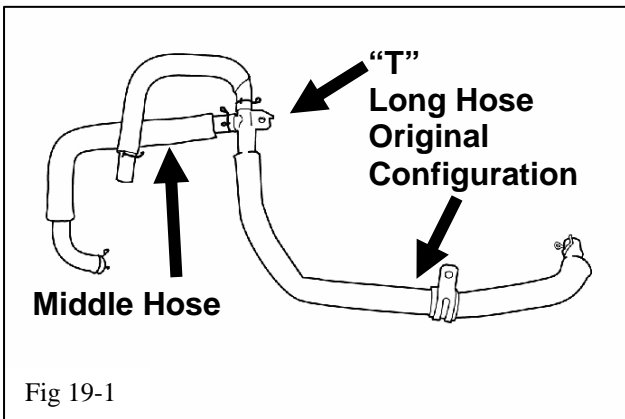
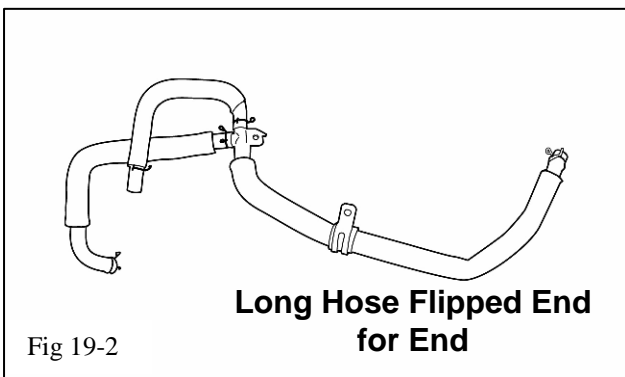

Fig 19-1
Fig 19-2
- (a) The ventilation hose assembly is shown as removed from the intake manifold (Fig 19-1). Remove the long hose from the "T", flip it end for end, and reconnect it to the "T" (Fig 19-2). It will also be necessary to remove the clamp from the long hose, rotate it, and then reinstall it so it points toward the front of the engine (Fig 19-2).